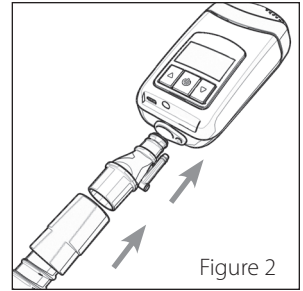

Figure 2
1. Connect one end of the **8" CPAP Tube** to the round end of the **Tube Adapter** then insert the other end of the **Tube Adapter** into the outlet of the **Z2**. (Figure 2)